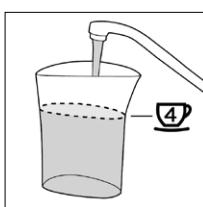

Figure 1
3. Fill the water measuring pitcher with filtered water to the **④** mark (Figure 1) and pour into water reservoir. Screw cap back onto the water reservoir.